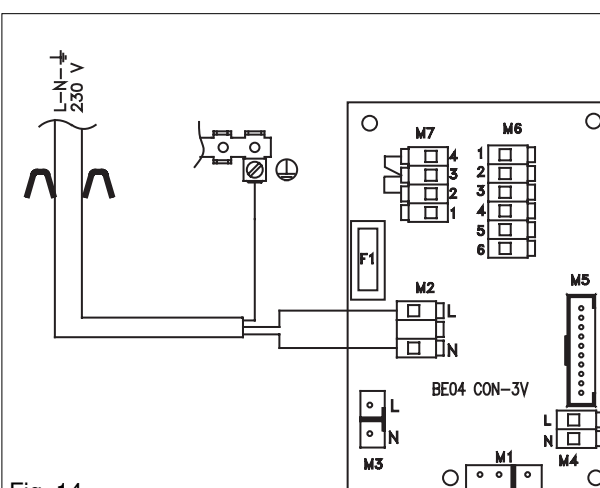

Fig. 14
4.9.2 CONNECTING THE MAINS (230V) INPUT (fig. 14)